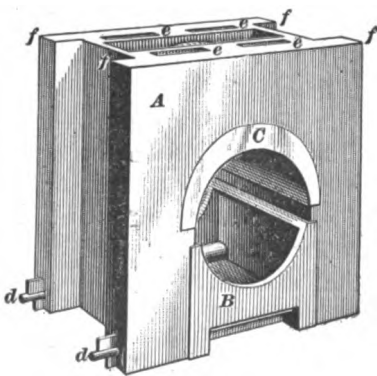

FIG. 28.
**75. Driving Box.**—Fig. 28 shows a **driving box**. The driving boxes and truck boxes transfer the entire weight of the engine (less the weight of the wheels and axles, side rods, and back end of main rod) to the journals.  $A$  is the driving box, and  $B$  the oil cellar, which is filled with oil-soaked waste that keeps the bearings well lubricated. The cellar is kept in position by the pins  $d, d$ . The flanges  $f, f$  serve to retain the driving box in place, the jaws and wedges fitting between the flanges.